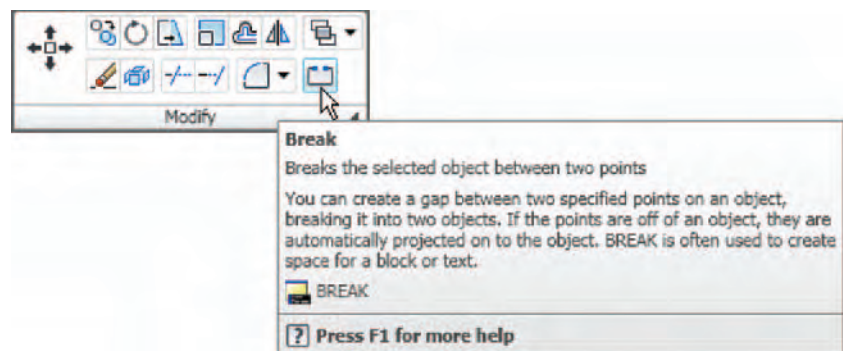

Fig. 5.35 The Break tool icon from the Home/Modify panel
2. Call **Break** – *click* its tool icon in the **Home/Modify** panel (Fig. 5.35), *pick* its tool icon in the **Modify** toolbar, *click* **Break** in the **Modify** drop-down menu, or *enter* **br** or **break** at the command line, which shows: